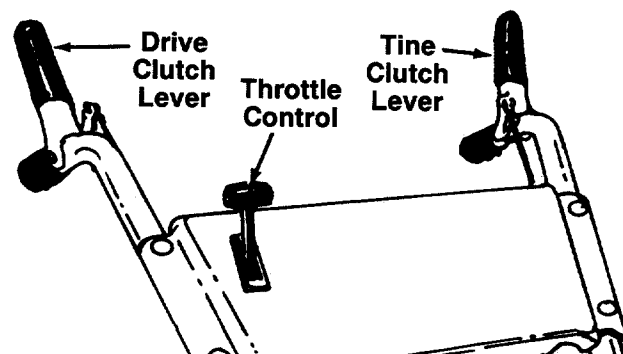
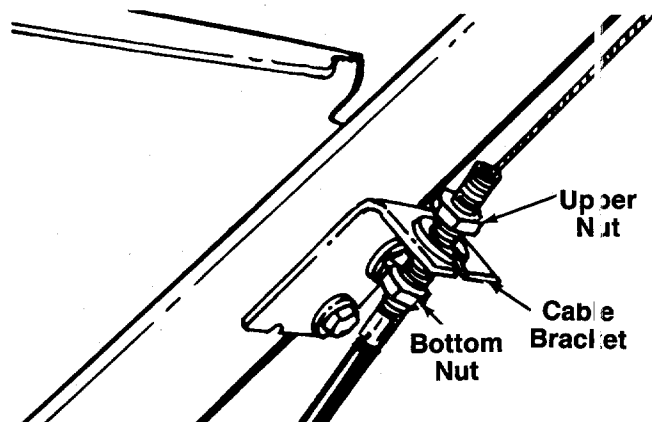
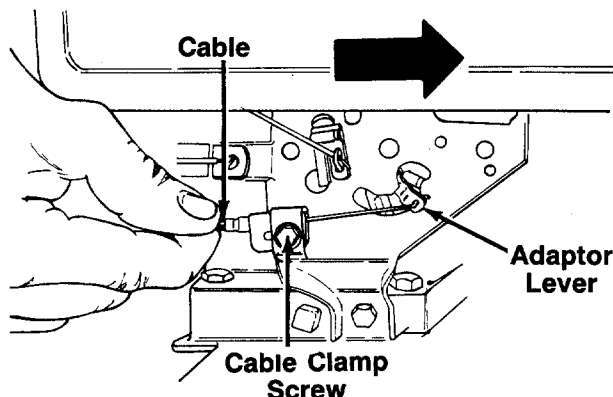

FIGURE 12.
FIGURE 18.
FIGURE 19.
The throttle control lever is located on the right hand side of handle panel and controls the engine speed. See figure 12.
The tine clutch lever is located on the left handle. See figure 12. Squeeze the lever down to engage the tines. Release the lever to disengage the tines.
The drive clutch lever is located on the right handle. See figure 12. Squeeze the lever down to engage the wheel drive. Release the lever to stop the wheels from driving.
To adjust, loosen the hex nuts at the cable bracket on the handle. See figure 18. With the clutch lever released as shown in figure 12, adjust the bottom nut so that there is only a slight amount of slack in the control wire. Tighten the upper nut against the bracket.
1. Loosen the cable clamp screw. See figure 19.
2. With the throttle control in FAST position (see figure 12) and the cable connected to the adaptor lever, push the cable through the cable clamp in the direction shown in figure 19 until the adaptor lever is as far up as it will go.